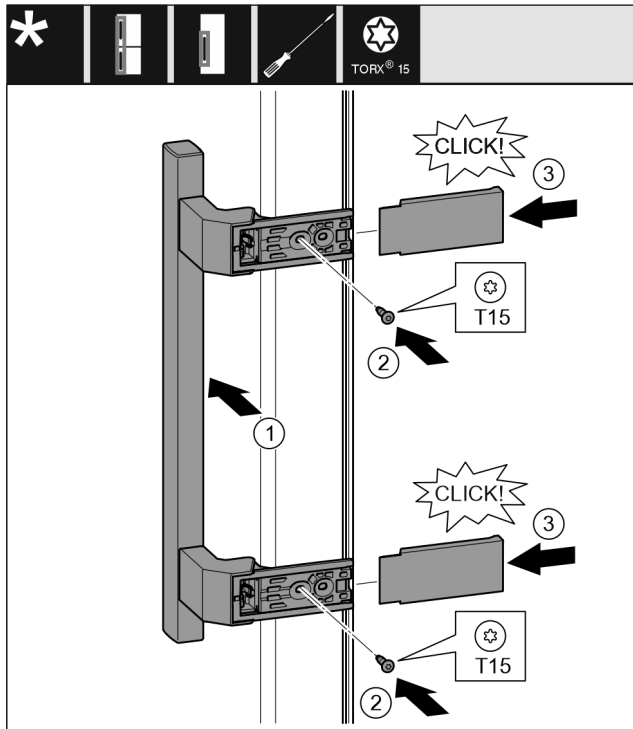

Fig. 40
- ▶ Position the handle on the other side. Fig. 40 (1)
- ▶ Tighten the screw with a T15 screwdriver. Fig. 40 (2)
- ▶ Position the covers on the side and push them on. Fig. 40 (3)